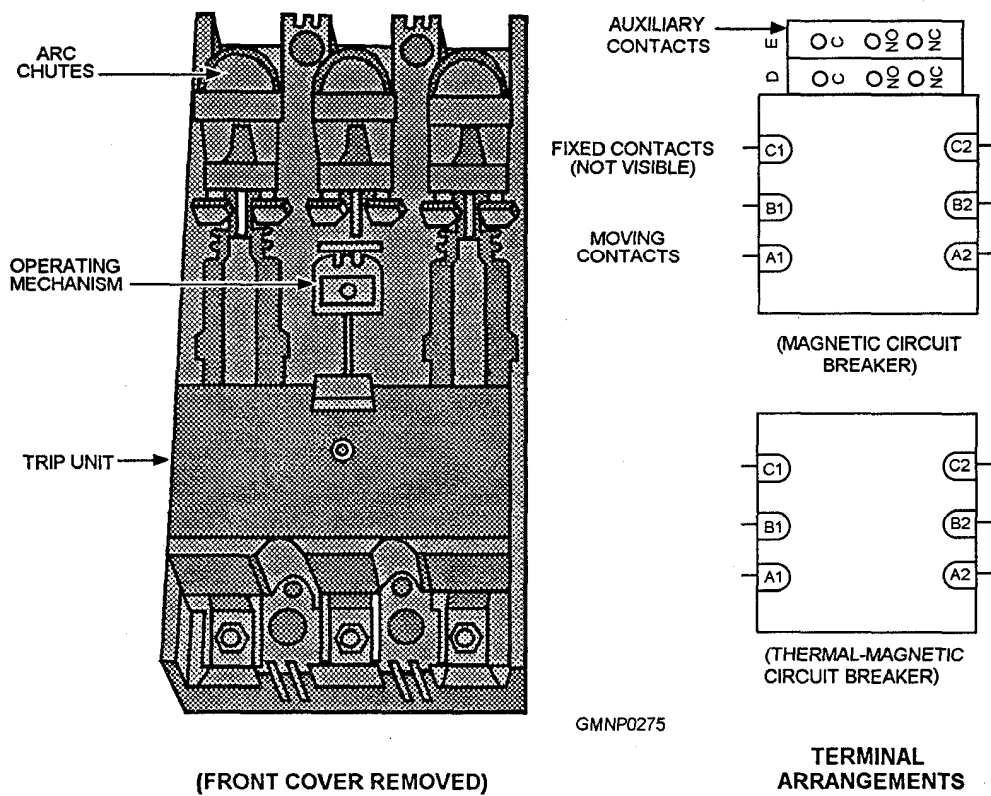

Figure 5-13.—Circuit breaker and terminal arrangements.
Circuit breakers (fig. 5-13) have two purposes: (1) to perform switching functions and (2) to provide overload protection. Each circuit breaker consists of a housing, a sealed trip unit, three movable contacts, three fixed contacts, and three arc chutes. Gun mount control systems use two types of circuit breakers—the magnetic trip and the thermal-magnetic trip.